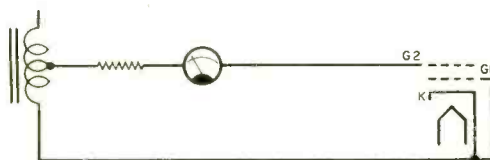

Fig. 2. Meter reads relative emission. Tests made at 1-minute intervals show warm-up characteristics.
**Emission.** The emission check is shown in the simplified diagram in Fig. 2. The control grid is tied to the cathode and an a.c. voltage is applied to  $G_2$  through a d.c. ammeter and series resistor. The amount of current that flows (during each positive half cycle) is a relative indication of the electron emission capability of the cathode.